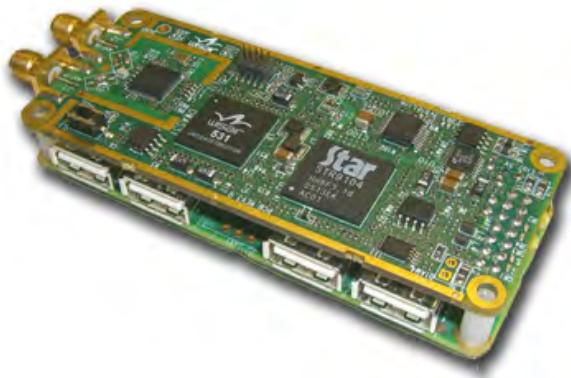

Figure 3: Wireless Hub
- § Wireless Hub—A Wireless Hub, shown below in **Figure 3: Wireless Hub**.